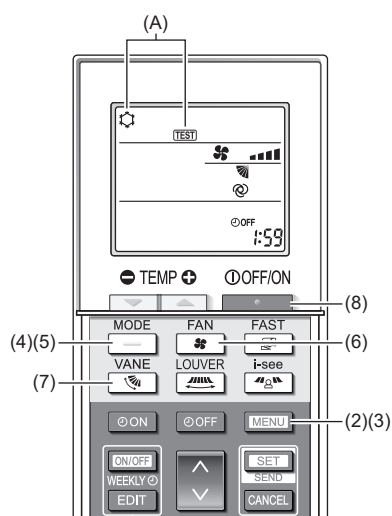

Fig. 7-8
- (1) Turn on the power to the unit at least 12 hours before the test run.
- (2) Press the **MENU** button for 5 seconds. (Fig. 7-8)
(A) [TEST] and the current operation mode are displayed. (Fig. 7-8)